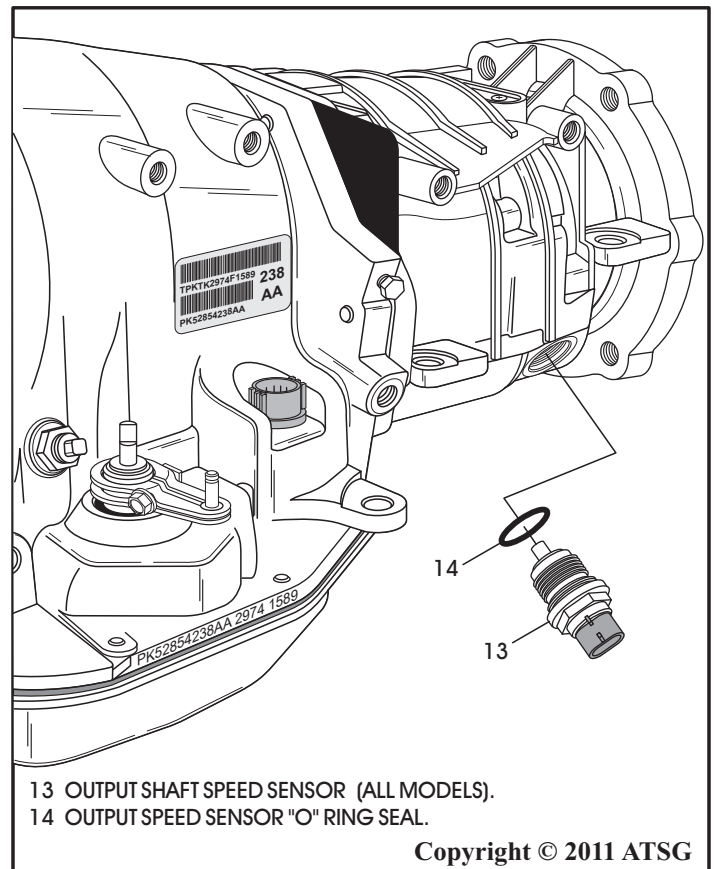

Figure 242
67. Install new "O" ring seal onto the output shaft speed sensor, as shown in Figure 242, and lube "O" ring seal with small amount of Trans-Jel®.
68. Install the output speed sensor assembly into the overdrive housing, as shown in Figure 242, and torque to 27 N·m (20 ft.lb.).